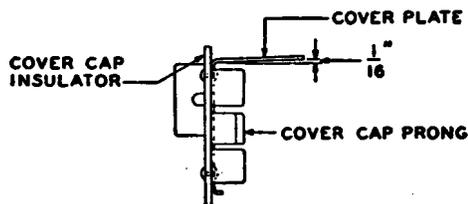

Fig. 101 - Cover Cap - 239 Type Relay
- 1.02 Cover Cap:** The outer end of 239 type relay cover plate shall be approximately $1/16''$ above a line as shown in Fig. 101.